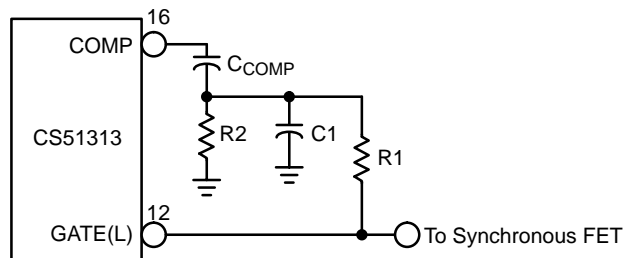

Figure 14. Small RC Filter Provides the Proper Voltage Ramp at the Beginning of Each On-Time Cycle
The circuit that implements this function is shown in Figure 14.
The ramp waveform is generated through a small RC filter that provides the proper voltage ramp at the beginning of each on-time cycle. The resistors R1 and R2 in the circuit of Figure 14 form a voltage divider from the GATE(L) output, superimposing a small artificial ramp on the output of the error amplifier. It is important that the series combination R1/R2 is high enough in resistance not to load down and negatively affect the slew rate on the GATE(L) pin.